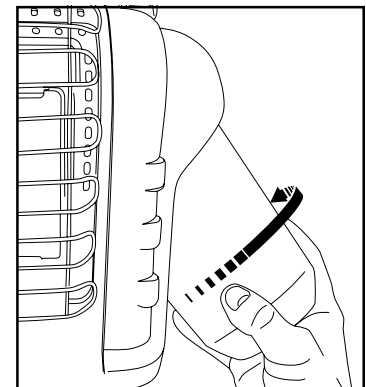

Figure 2: Attach fuel tank
- Open right hand access door, swivel regulator outward for easy tank installation. Screw 1 lb. disposable LP-gas supply cylinder clockwise (from bottom) into portable heater until hand-tight; see Figure 2.